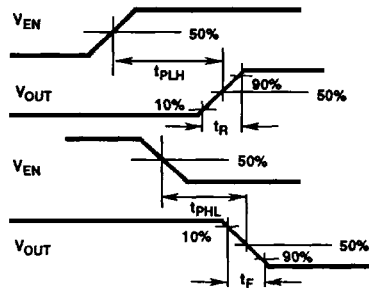

**FIGURE 1. TYPICAL HIP4010 MOTOR CONTROL APPLICATION CIRCUIT SHOWING DIRECTIONAL AND BRAKING CONTROL**
- Refer to the TRUTH TABLE and the  $V_{EN}$  to  $V_{OUT}$  SWITCHING WAVEFORMS. Current,  $I_O$  refers to  $I_{OUTA}$  or  $I_{OUTB}$  as the Output Load current. Note that ENA controls OUTA and ENB controls OUTB. Each Half H-Switch has independent control from the respective A1, A2, ENA or B1, B2, ENB inputs. Refer to the TERMINAL INFORMATION TABLE for external pin connections to establish mode control switching. Figure 1 shows a typical application circuit used to control a DC Motor.
The HIP4010 is designed to detect load current feedback from sampling resistors of low value in the source connections of the output drivers to  $V_{DDA}$ ,  $V_{DDB}$ ,  $V_{SSA}$  and  $V_{SSB}$  (See Figure 1). When the sink or source current at OUTA or OUTB exceeds the preset OC (Over-Current) limiting value of 550mA typical, the current is held at the limiting value. If the OT (Over-Temperature) Protection limit is exceeded, temperature sensing BIMOS circuits limit the junction temperature to 150°C typical.
The circuit of Figure 1 shows a Low Voltage motor-driver application for the HIP4010 as a Full H-Switch. The left (A) and right (B) H-Switch's are controlled from the A and B inputs via the A and B CONTROL LOGIC to the MOS output transistors Q1, Q2, Q3 and Q4. The circuit is intended to safely start, stop, and control rotational direction for a motor requiring no more than 0.5A of supply current. The stop function includes a Dynamic Braking feature.